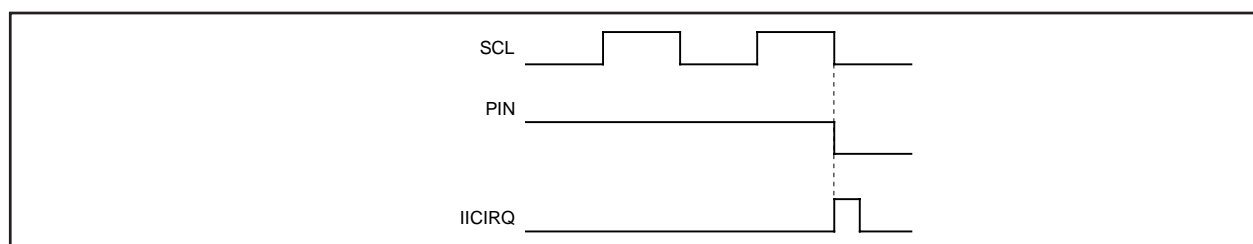

Fig. 13.10 Interrupt request signal generation timing
This bit generates an interrupt request signal. Each time 1-byte data is transmitted, the state of the PIN bit changes from “1” to “0.” At the same time, an interrupt request signal is sent to the CPU. The PIN bit is set to “0” in synchronization with a falling edge of the last clock (including the ACK clock) of an internal clock and an interrupt request signal occurs in synchronization with a falling edge of the PIN bit. When detecting the STOP condition in slave, the multi-master I²C-BUS interface interrupt request bit (IR) is set to “1” (interrupt requested) regardless of falling of PIN bit. When the PIN bit is “0,” the SCL is kept in the “0” state and clock generation is disabled. Figure 13.10 shows an interrupt request signal generating timing chart.